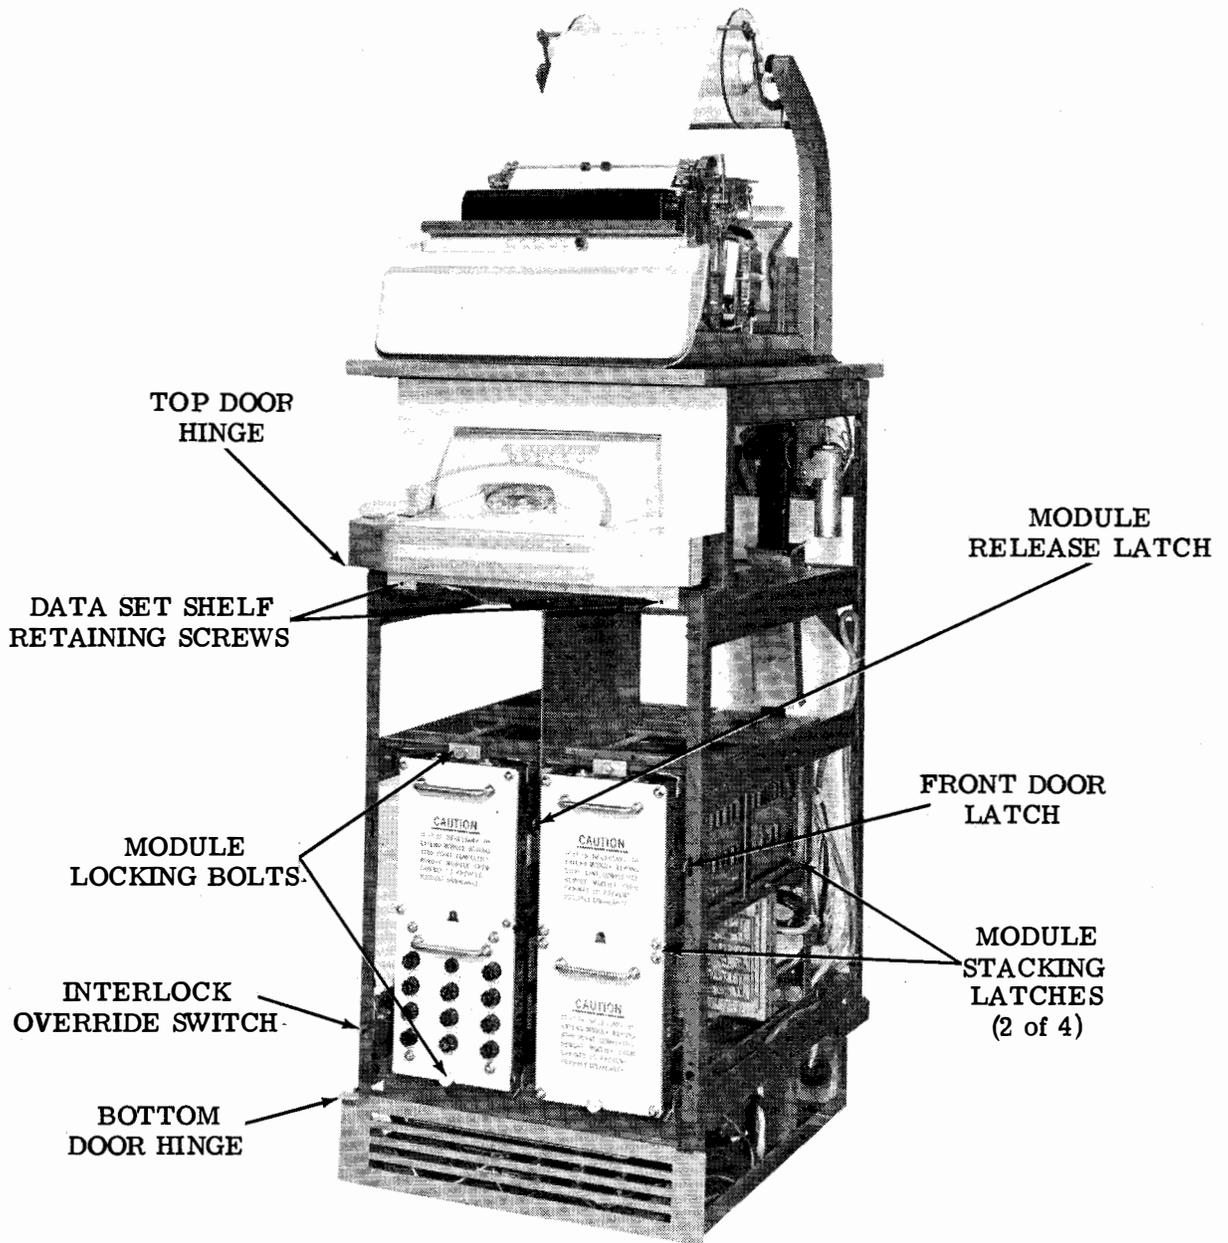

Figure 7 - DATASPEED Printer With Data Set Shelf Assembly
more convenient to remove the doors and panels to provide full access to the components (Figure 7).
2.25 The four modules that contain most of the electronic circuitry for the printer are mounted in the left and right compartments of the printer cabinet (Figure 7). The printer drive module (DAD) and power supply module (DAPS) are latched together in the left compartment, and the character generator module (DAG) and interface module (DAIF) are latched together in the right compartment. The lower module of each group rests on a pair of guide tracks at the bottom of the compartment. Each set of modules can be extended for servicing by unscrewing the bolts at the top of the upper module and the bottom of the lower module, and sliding the modules forward until they are stopped by the post on the release lever. To extend the modules beyond the stop point, the release lever must be pressed downward.